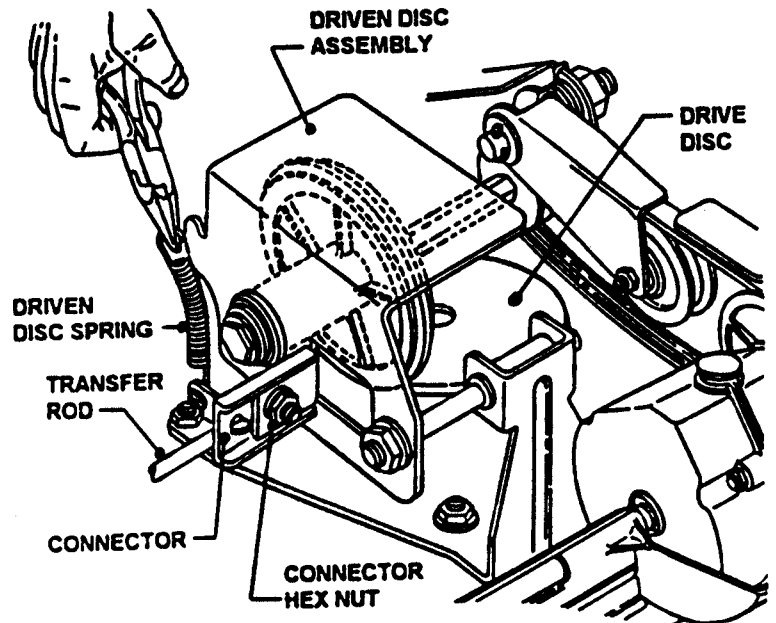

FIGURE 3.14.A
- (b) Remove driven disc spring from driven disc assembly. Loosen connector hex nut. See Figure 3.14.A.
- (c) Slide driven disc assembly over to 1/8" from outside edge of drive disc. Maintaining the 1/8" measurement, remove any looseness from the linkage. This can be done by holding the transfer rod and applying pressure to the left (as viewed from operators position). Then retighten the connector hex nut securely. See Figure 3.14.B. Move ground speed control to the first speed position, then back to the sixth speed position. Recheck the 1/8" measurement described previously. Reinstall driven disc spring to driven disc assembly.